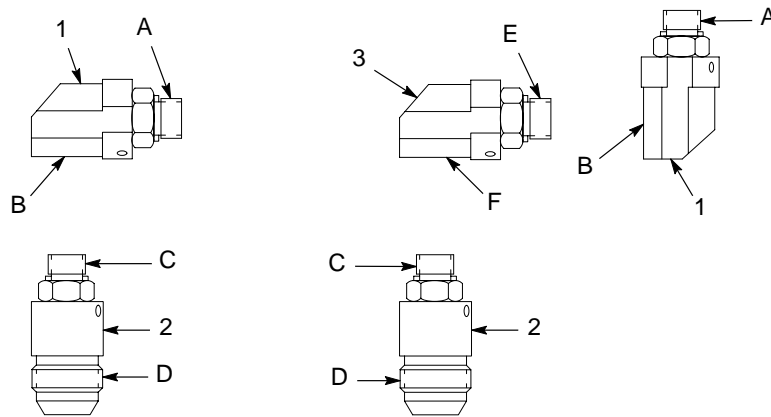

Figure 3 Large Swivels—Typical Combinations
- See Figure 3 and Table 4. Choose one elbow swivel (1) as the basis for your assembly.
- Add one straight swivel (2) to the elbow to create a two-plane assembly or add an elbow swivel (3) and a straight swivel (2) to create a three-plane assembly.
NOTE A: These straight swivels can be used as single swivels. B: This large straight swivel can only be used as a single swivel and cannot be used to configure two- and three-plane assemblies. Use item 2 (Figure 3) for reference only — this swivel cannot be joined with an elbow.